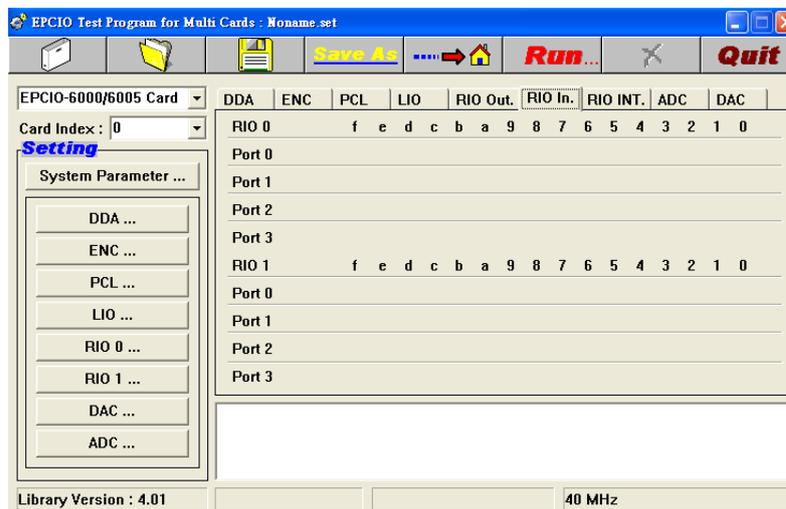
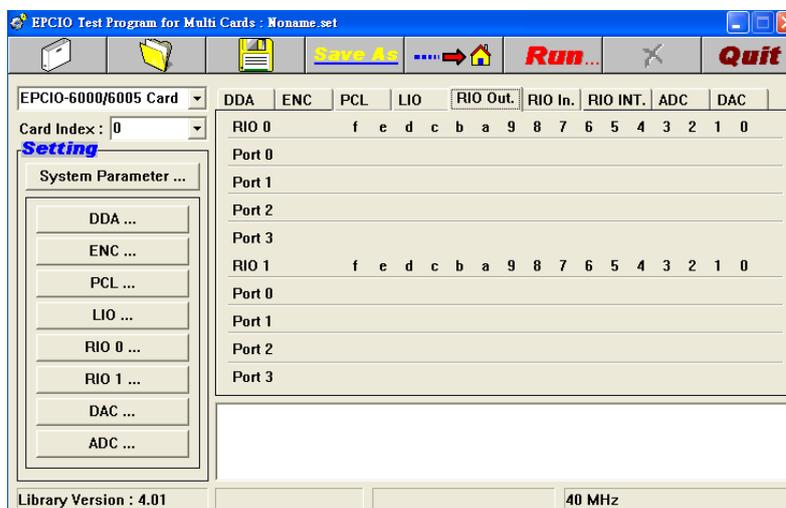

Figure 3-6.2
Figure 3-6.3
- C. Observe the “RIO In.” fields (Figure 3-6.2) and the “RIO Out.” fields (Figure 3-6.3). The values in the “RIO Out.” fields will be output to and displayed on the corresponding EDIO-S00X modules in a sequential and cyclic manner (i.e., each port in the “RIO Out.” display area will have a  $\surd$  mark displayed as on the corresponding module), and each input from the EDIO-S00X modules will be displayed by a  $\surd$  mark in the corresponding “RIO In.” field (for the corresponding relationships, please refer to EPCIO-6000/6005 User Manuals).